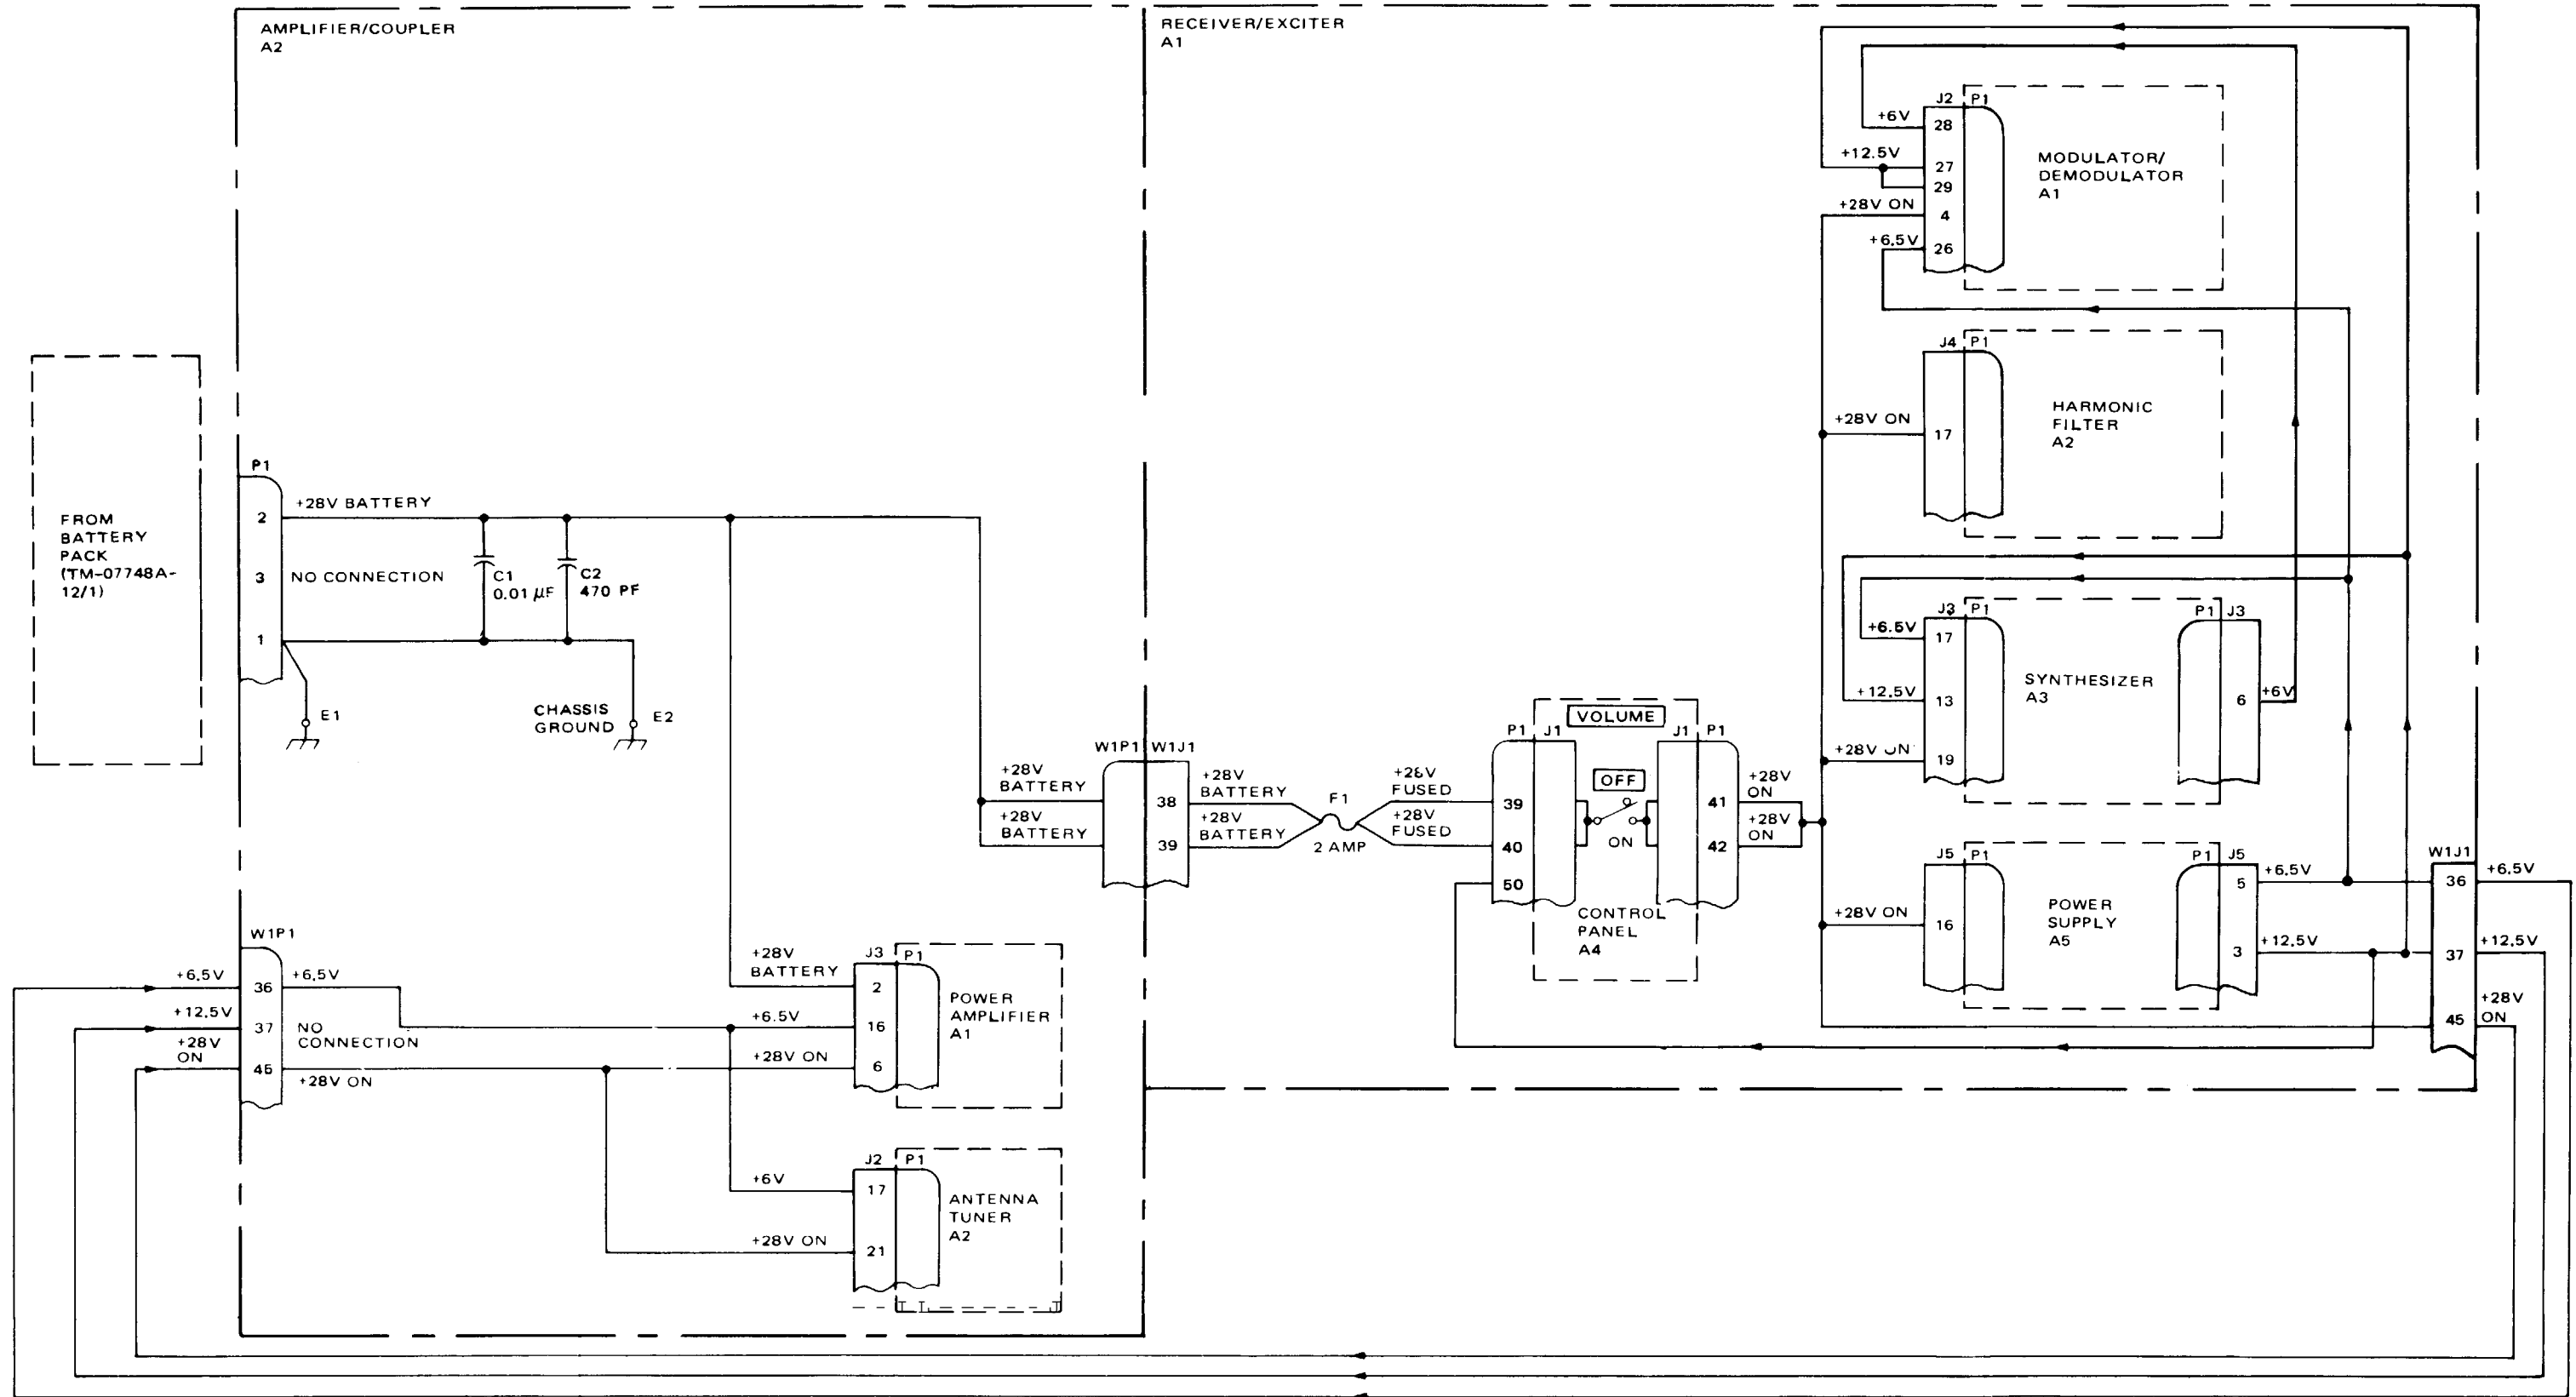
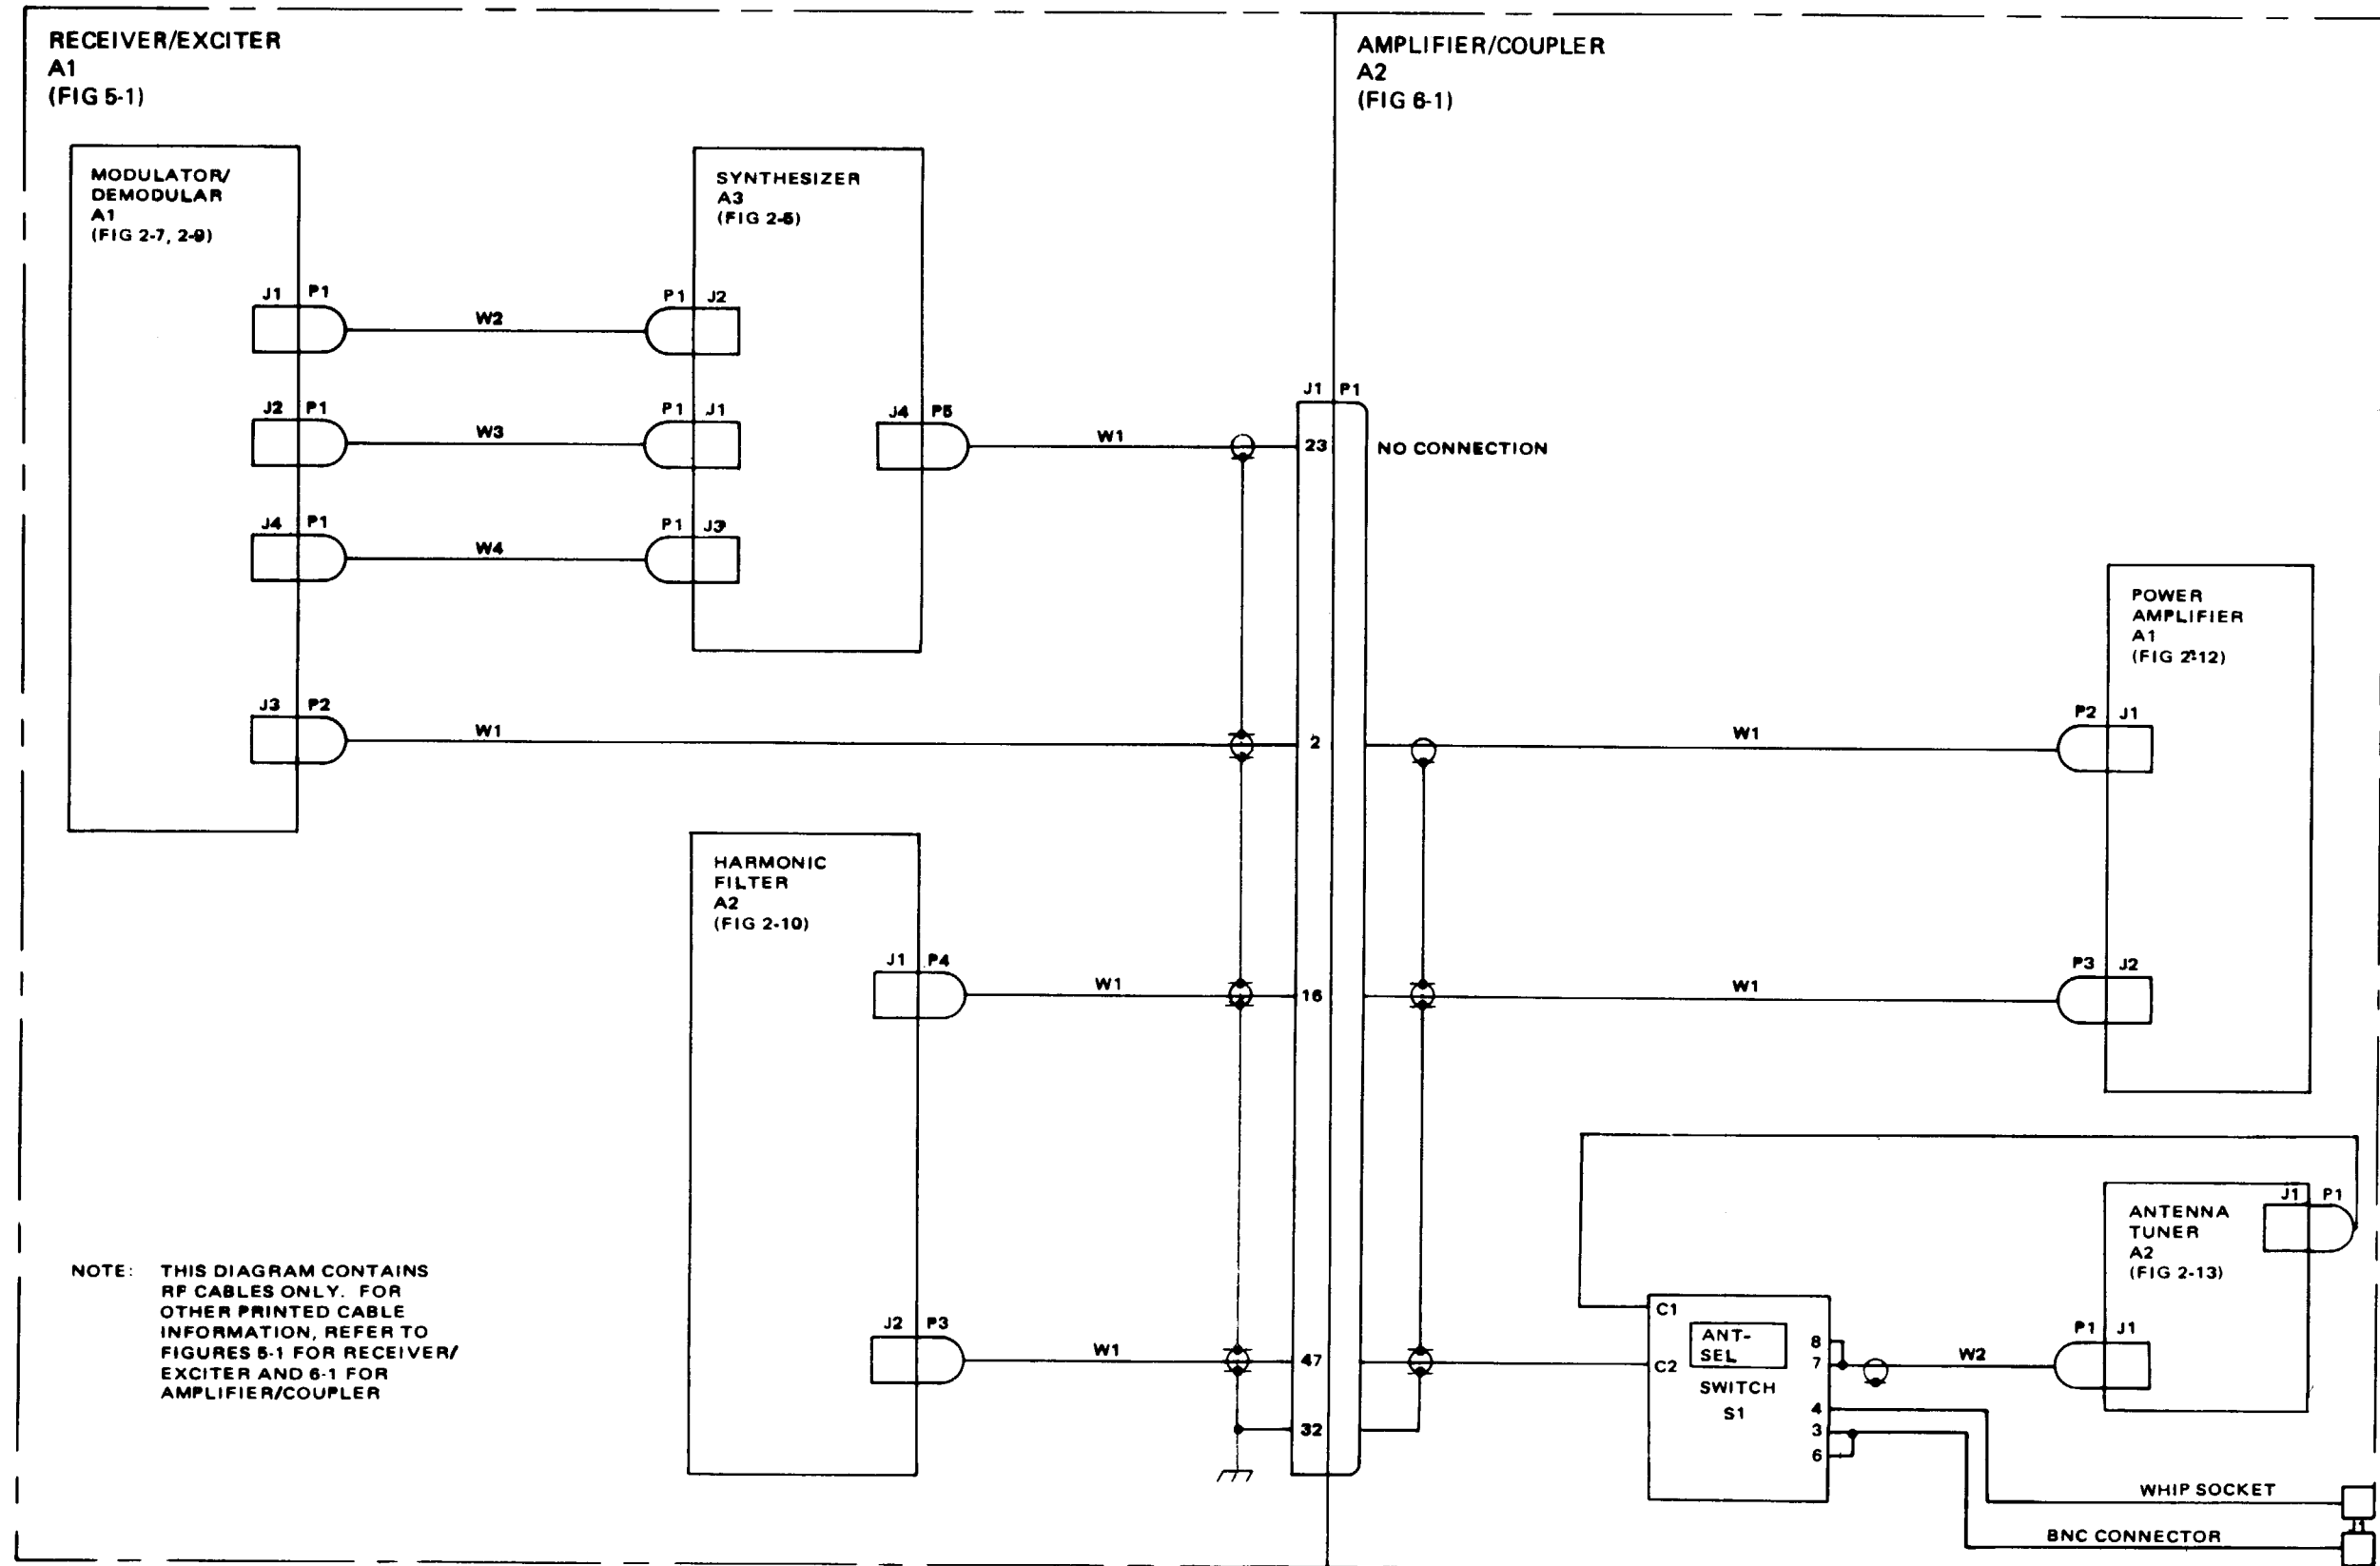

Figure 4-1. Radio Set Power Distribution
Figure 4-2. Radio Set RF Cabling
7. Maintenance Diagrams (power distribution (fig 4-1), rf cabling (fig 4-2), component location (fig 4-3), test setup (fig 4-4), performance test and troubleshooting (fig 4-5))
figure 4-1 and rf cabling diagram figure 4-2. Once a fault has been isolated and corrected, the performance test must be repeated. Do not skip blocks in the performance test, because succeeding blocks may be predicated on certain faults being eliminated.